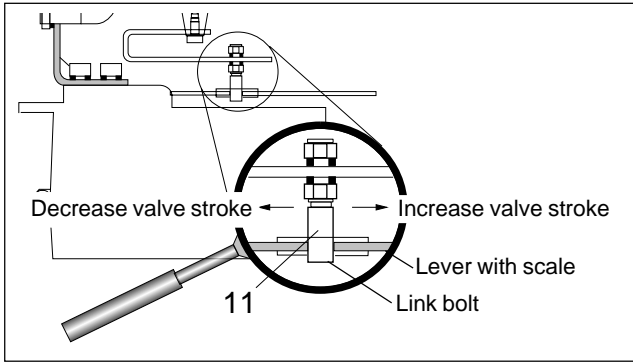

Fig. 4 Adjusting the stroke
The positioning travel (stroke) is transmitted to the positioner via the bolt (item 11) as an angle of rotation. The relationship between the linear movement and the angle of rotation can be modified by moving the link bolt in the slot (see Fig. 4).